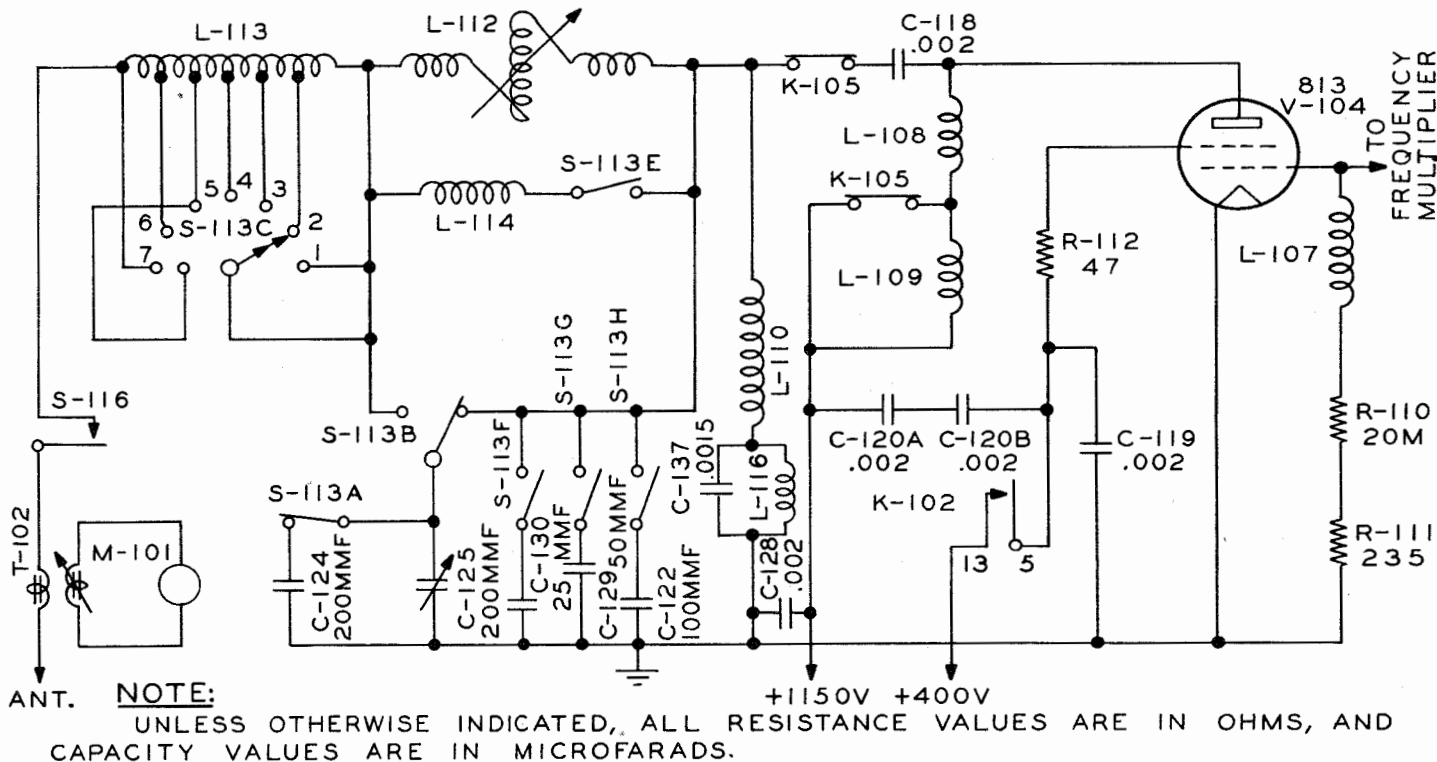

Figure 4-20 Power Amplifier and Output Network
c. POWER AMPLIFIER AND OUTPUT NETWORK. - The power amplifier stage, figure 4-20, employs a Type 813 beam pentode tube and operates as a straight amplifier at all frequencies. When the transmitter is operating in the frequency range 200 kc to 1500 kc, the output of the RF oscillator is capacitively coupled to